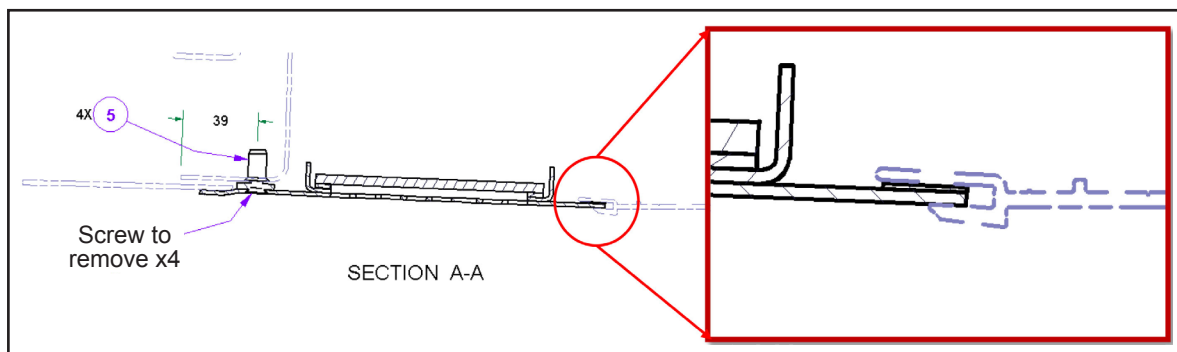

Figure 1- Removal of the Current Grill
- 1.1. Remove the grills of the HVAC Return air system by removing the screws while holding the grill. See Figure 1.